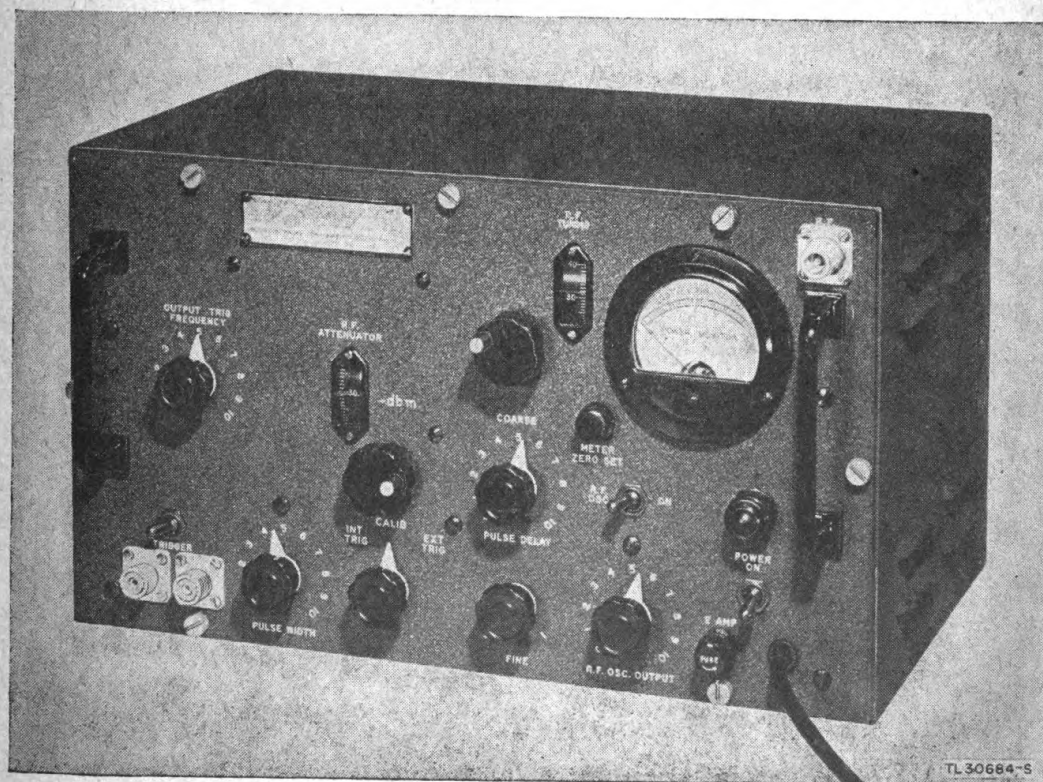

Figure 6. Signal Generator TS-155B/UP.
8. SIGNAL GENERATOR TS-155B/UP (fig. 6).